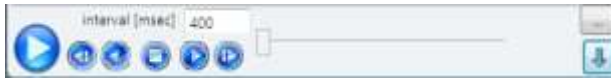

Figure 37: Animation control bar
- On Line checkbox: When checked, the image is displayed according to the current material measurements. When unchecked, the view changes to an animation showing the stored material level and surface changes over a selectable time period (see Figure 37: Animation control bar).